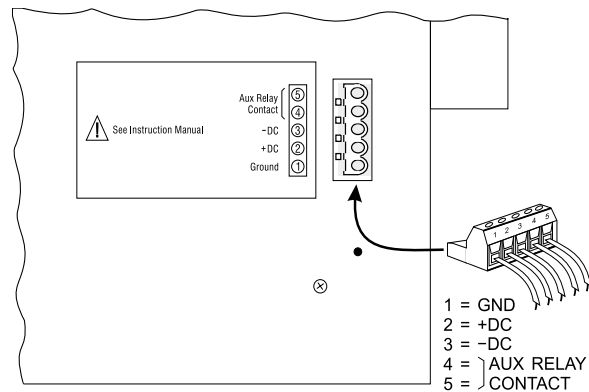

Figure 1 Model 733 cabinet showing 5-position plug-in terminal strip.
3.7 GROUND, DC OUTPUT, AND AUXILIARY RELAY CONNECTIONS Ground, DC output, and auxiliary relay connections are made via terminals on a 5-position plug-in screw terminal strip. The terminal strip is located on the left side of the Model 733's cabinet and is illustrated in Figure 1.